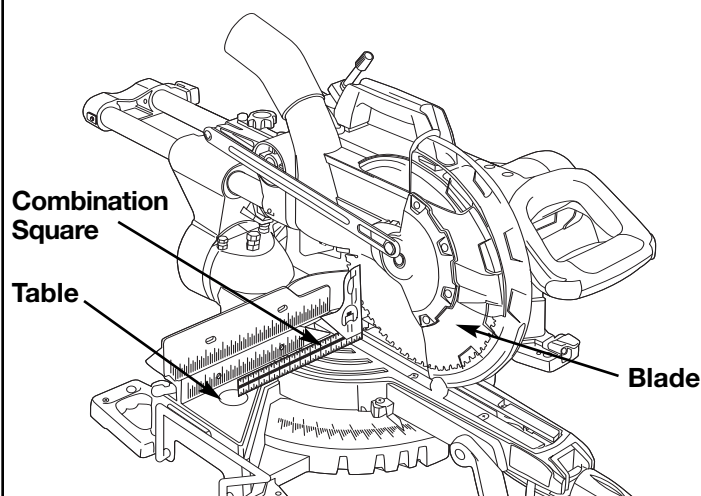

Figure 6. Blade Square to Table
4. Use a combination square to check blade squareness to table. Place the combination square on the table and press it against the blade. If the blade does not contact the full length of the square, (Figure 6) follow the alignment procedure.
5. Push square against blade (fig. 6).